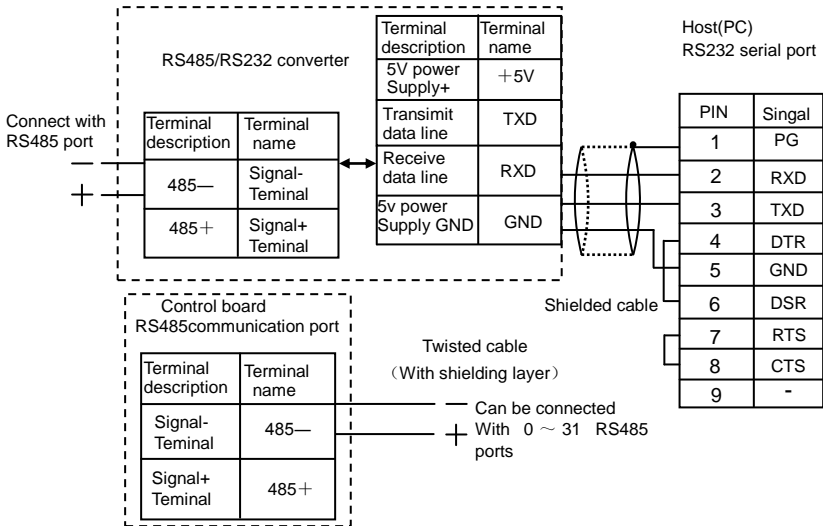

Figure 3-3 Connection of serial communication port
3.Connection of serial communication port is shown in Figure 3-3.